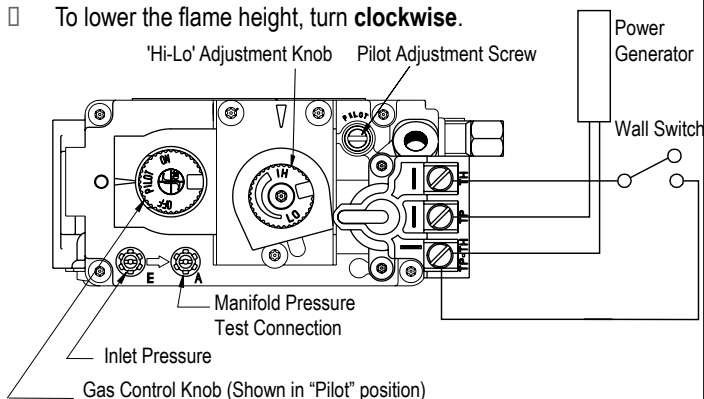

Figure 30. 'Hi-Lo' Adjustment on the **B-Series DV-2's** SIT Nova 820
The **B-Series DV-2** is equipped with an adjustable burner, allowing you to raise or lower the flames. To adjust the flames, locate the black knob marked 'Hi-Lo', in the right of the gas control valve (See **Figure 30**). The front burners are not adjustable.
- An inspection of the gas valve, gas components, and pilot flame. For your convenience a 1/8" manifold pressure tap is supplied on the gas valve for a test gauge connection. See **Figure 30 & 31**.
1. Locate Pilot Adjustment Screw. (See **figure 30 or 31.**)
Pilot won't ignite	Disconnect remote wires and try to light pilot. If pilot now works, remote connections are faulty. Check wiring diagram figure 30.
Main burner will not light	1. Check wiring (see figure 30). 2. Check wall switch for proper connection.